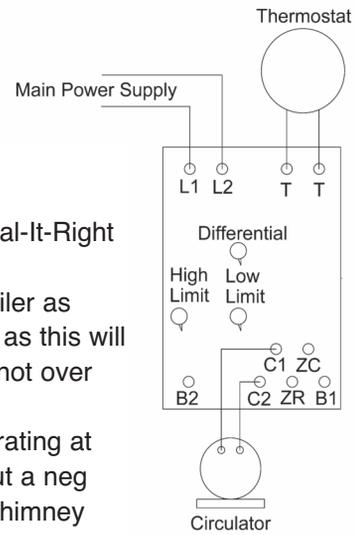

Fig. 7
- 21 - When hooking up a thermostat and circulator. See Fig. 7.